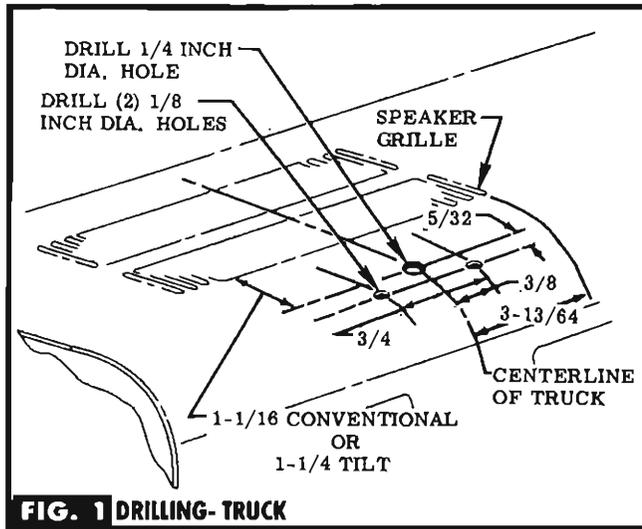

FIG. 1 DRILLING-TRUCK
STEP 1 LOCATE, CENTER PUNCH & DRILL HOLES IN INSTRUMENT PANEL. IF INSTRUMENT PANEL IS PADDED, HOLES ARE TO BE DRILLED THRU PAD. (ON CORVAIR 95 & CHEVY) USE TEMPLATE PROVIDED. SEE FIG. 1, 2, OR 3.